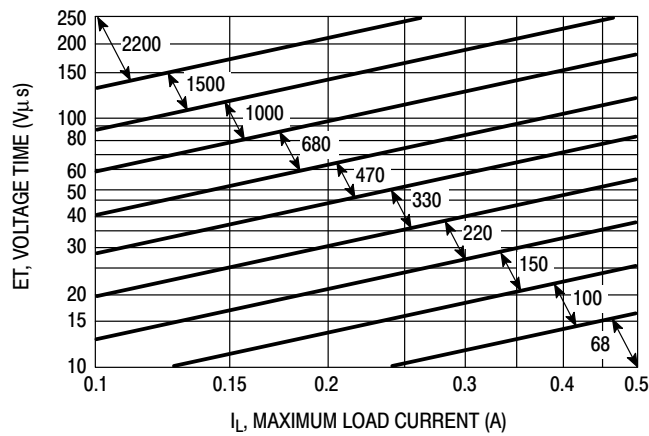

Figure 23. LM2574-ADJ
4. Inductor Selection (L1) A. Use the following formula to calculate the inductor Volt x microsecond [V x μs] constant: $E \times T = (V_{in} - V_{out}) \times \frac{V_{out}}{V_{in}} \times \frac{10^6}{f_{[Hz]}} [V \times \mu s]$ B. Match the calculated E x T value with the corresponding number on the vertical axis of the Inductor Value Selection Guide shown in Figure 23. This E x T constant is a measure of the energy handling capability of an inductor and is dependent upon the type of core, the core area, the number of turns, and the duty cycle. C. Next step is to identify the inductance region intersected by the E x T value and the maximum load current value on the horizontal axis shown in Figure 27. D. From the inductor code, identify the inductor value. Then select an appropriate inductor from Table 2. The inductor chosen must be rated for a switching frequency of 52 kHz and for a current rating of $1.15 \times I_{Load}$. The inductor current rating can also be determined by calculating the inductor peak current: $I_{p(max)} = I_{Load(max)} + \frac{(V_{in} - V_{out})t_{on}}{2L}$ where t_{on} is the "on" time of the power switch and $t_{on} = \frac{V_{out}}{V_{in}} \times \frac{1.0}{f_{osc}}$ For additional information about the inductor, see the inductor section in the "External Components" section of this data sheet.	4. Inductor Selection (L1) A. Calculate E x T [V x μs] constant : $E \times T = (40 - 24) \times \frac{24}{40} \times \frac{1000}{52} = 105 [V \times \mu s]$ B. $E \times T = 185 [V \times \mu s]$ C. $I_{Load(max)} = 0.4$ A Inductance Region = 1000 D. Proper inductor value = 1000 μH Choose the inductor from Table 2.